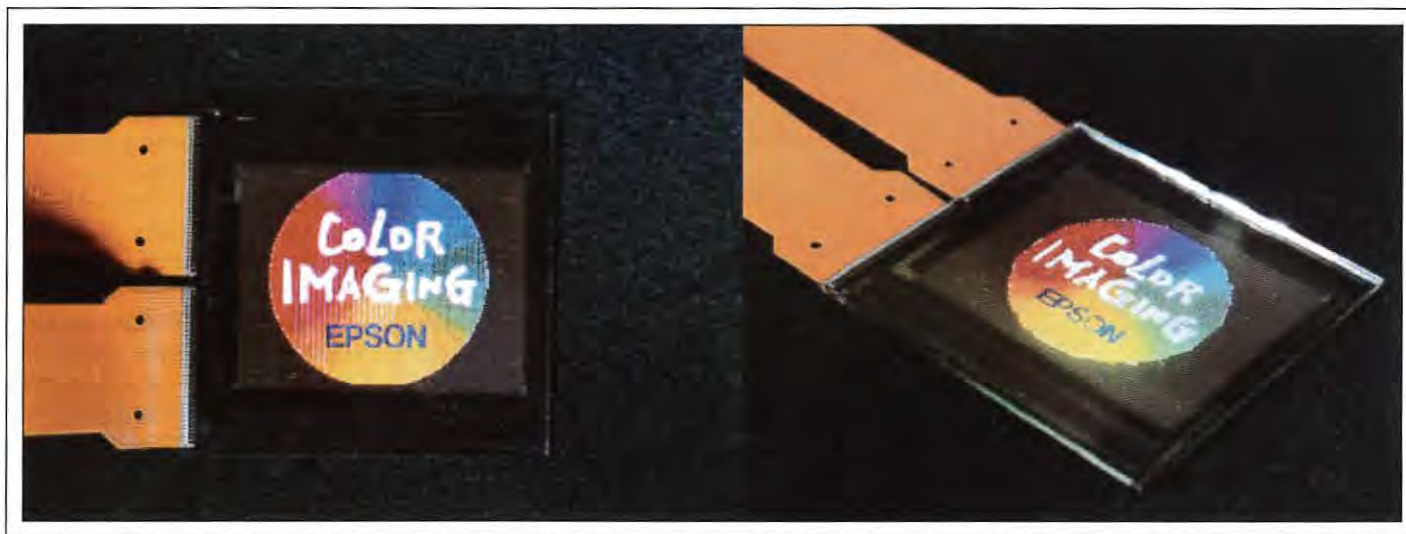
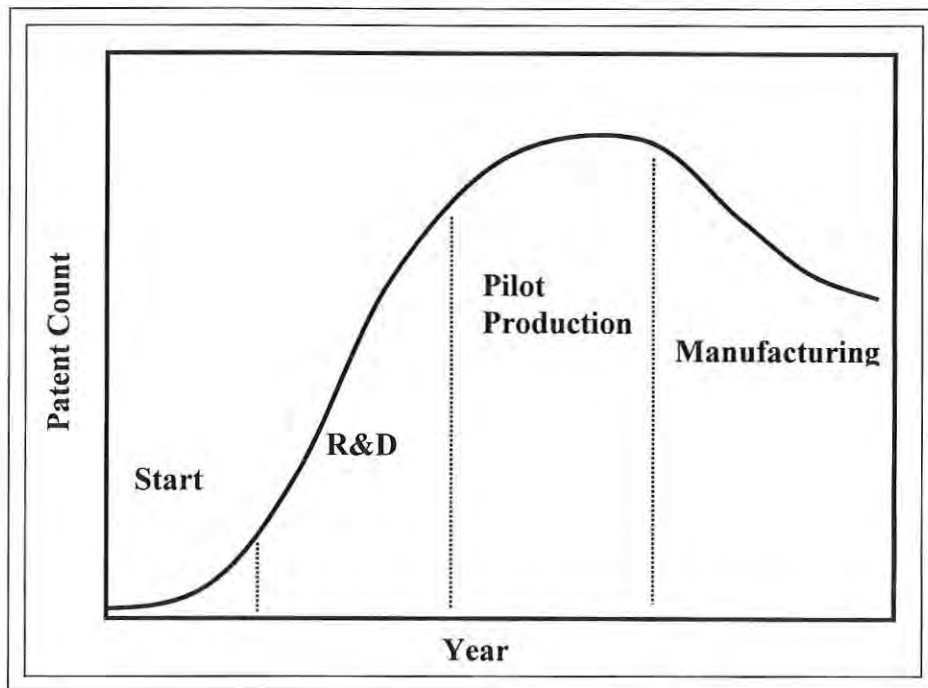

Fig. 3: Cambridge Display Technology and Seiko-Epson have recently demonstrated a 2.5-in. full-color 16-gray-level active-matrix ink-jetted display.
Fig. 2: Patent activity increases until product manufacturing begins and then falls off as the technology matures.
K. Sekimoto [see *SID Intl. Symp. Digest Tech. Papers*, 166-169 (1999)] to reduce the motion artifacts in a robust and easy-to-implement way. Pioneer has developed a similar method. This technique recognizes that motion artifacts are caused by the temporal nonlinearity of the conventional gray-scale algorithm (Fig. 3, top). By using a linearly weighted sub-field sequence, all motion artifacts can be eliminated (Fig. 3, bottom).
Fig. 2: A polymer system for passive-matrix displays has recently been introduced that features high luminance at low voltage, a flat cd/A curve, high efficiency, a long lifetime, and a stable voltage/time characteristic.
We have recently produced such a polymer system. The yellow emitter (CIE 0.45, 0.54) turns on at less than 2 V, and the average voltages required to achieve luminances of 100, 1000, and 100,000 cd/m² are 2.1, 2.4, and 5.5 V, respectively (Fig. 2).
Fig. 4: This cross-sectional schematic view of the full-color ink-jetted display shown in Fig. 3 illustrates the vertical structures, consisting of SiO₂ and polyimide pillars, atop the TFT substrate.
CDT/Seiko-Epson recently demonstrated a 2.5-in. full-color 16-gray-level active-matrix display (Fig. 3). The vertical structures on top of the TFT substrate consist of insulating SiO₂ and polyimide pillars (Fig. 4). The SiO₂ prevents shorting between the cathode and ITO at the pixel edge, and the polyimide creates the wells into which the ink is deposited.
The classical view is that patent activity varies as a technology passes through the various stages of its life cycle (Fig. 2). Specifically, patent activity increases until product manufacturing begins and then falls off as the technology matures. Interestingly, liquid-crystal display (LCD) technology shows signs of active development, even though LCDs have been on the market for 15 years (Fig. 3). The figure shows a steady increase in patent activity for Patent Class 349 (Liquid-Crystal Cells, Elements, and Systems). The drop-off in 1999 is within the noise of the data. Class 349 is a broad class and includes many subclasses of LC technology. Clearly, as certain LC technologies mature, others are being developed to overcome old barriers in a con-
Fig. 3: The patent activity of Patent Class 349 (Liquid-Crystal Cells, Elements, and Systems) shows a steady increase. Although LCDs have been on the market for 15 years, patent activity is still strong. (Data from USPTO.)